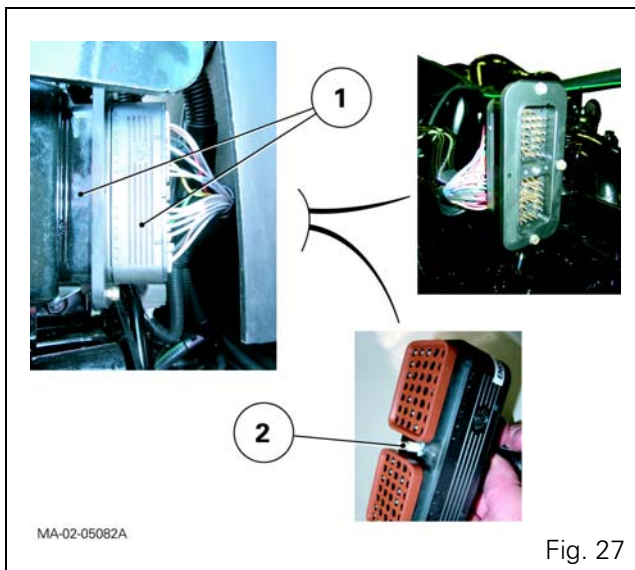

Fig. 27
- screw (2) of the connector (1) on the main harness (Perkins EEM engine) (Fig. 19 and Fig. 27) to a torque of 2.82 to 3.15 Nm.